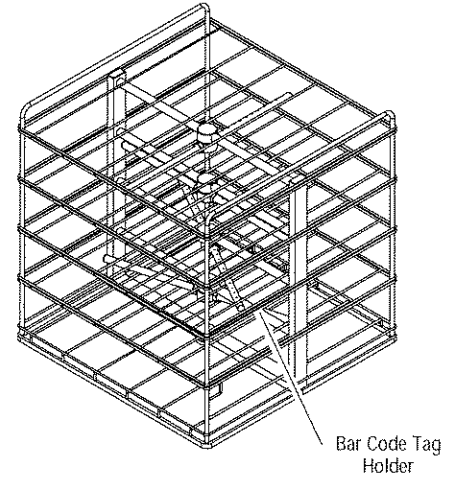

Figure 3-12. Five-Level Manifold Rack
- **Five-Level Manifold Rack** (see Figure 3-12) is designed to hold two mesh Instrument Trays on each level.